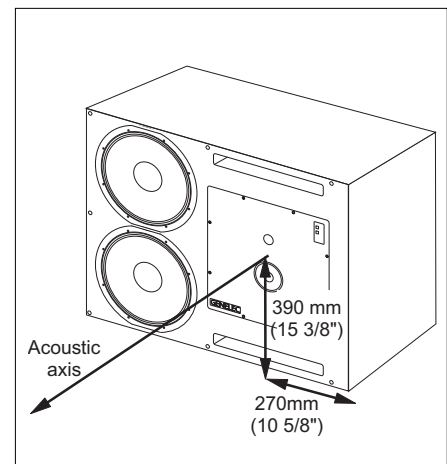

Fig 2.1 Horizontal configuration.
The speaker has its acoustical axis midway between the midrange and treble drivers. This axis should be used as the listening and measuring axis of the system. (See Fig 2.1 and Fig 2.2)
- Set the microphone 1m away from the loudspeaker on the acoustic axis. (See Fig 2.1 and 2.2)